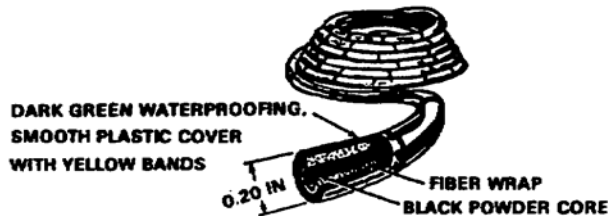

Figure 4. M700 time fuse.
**M700 Time Fuse.** This fuse (Figure 4) is a dark green cord, filled with black powder and covered with plastic. There are yellow bands at specific intervals. Single, yellow bands are spaced at one-minute intervals, and double, yellow bands indicate five-minute intervals. These bands aid in determining the length of fuse for a given burning time. The fuse burns at approximately 40 seconds per foot.